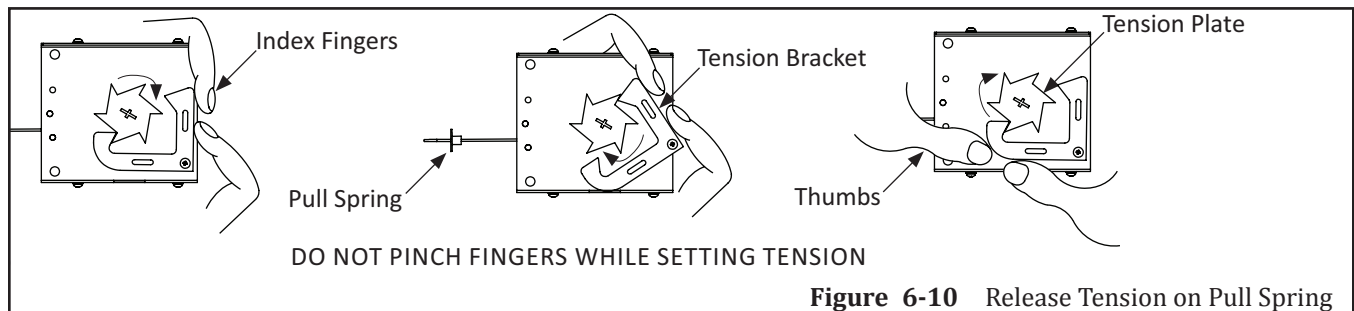

Figure 6-10 Release Tension on Pull Spring
2. With both Index fingers carefully push the Tension Bracket forward so the Tension Plate clicks clockwise. Please see Figure 6-10.